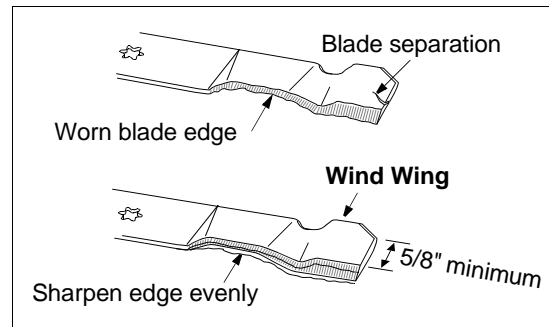

Figure 14
2. Place a block of wood between the center deck housing baffle and the cutting blade to act as a stabilizer. See Figure 14.
3. Using a 15/16" wrench, remove the hex flange nut that secures the blade to the spindle assembly. See Figure 14.
4. To properly sharpen the cutting blades, remove equal amounts of metal from both ends of the blades along the cutting edges, parallel to the trailing edge, at a 25° to 30° angle. See Figure 14.
- If the cutting edge of the blade has already been sharpened to within 5/8" of the wind wing radius, or if any metal separation is present, replace the blades with new ones. See Figure 14.